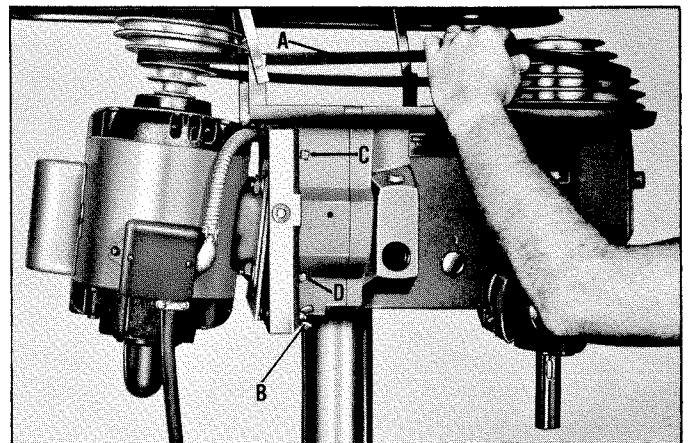

Fig. 7.
1. Raise the belt guard and tighten wing nut (B) Fig. 7.
- Loosen the two screws (C and D) Fig. 7, and also loosen the screw on the right hand side of the head, which is directly opposite screw (C).
- Loosen wing nut (B) Fig. 7. The motor will then tilt forward, as shown in Fig. 7, releasing the belt tension.
- Move the belt (A) Fig. 7, to the desired step on the motor pulley and retighten wing nut (B).